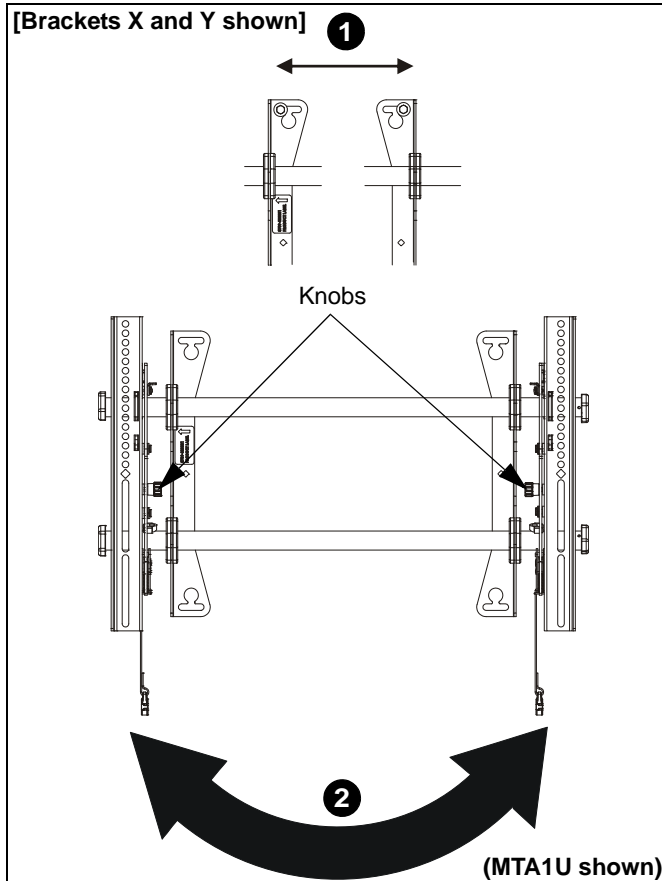

Figure 6
1. The wall brackets may be adjusted side to side at the point of attachment. (See Figure 6)
2. The location of the left and right interface brackets (V and W or X and Y) may be switched, with the knobs on the MTA1U/LTA1U interface brackets (X and Y) facing the inside of the mount. (See Figure 6)